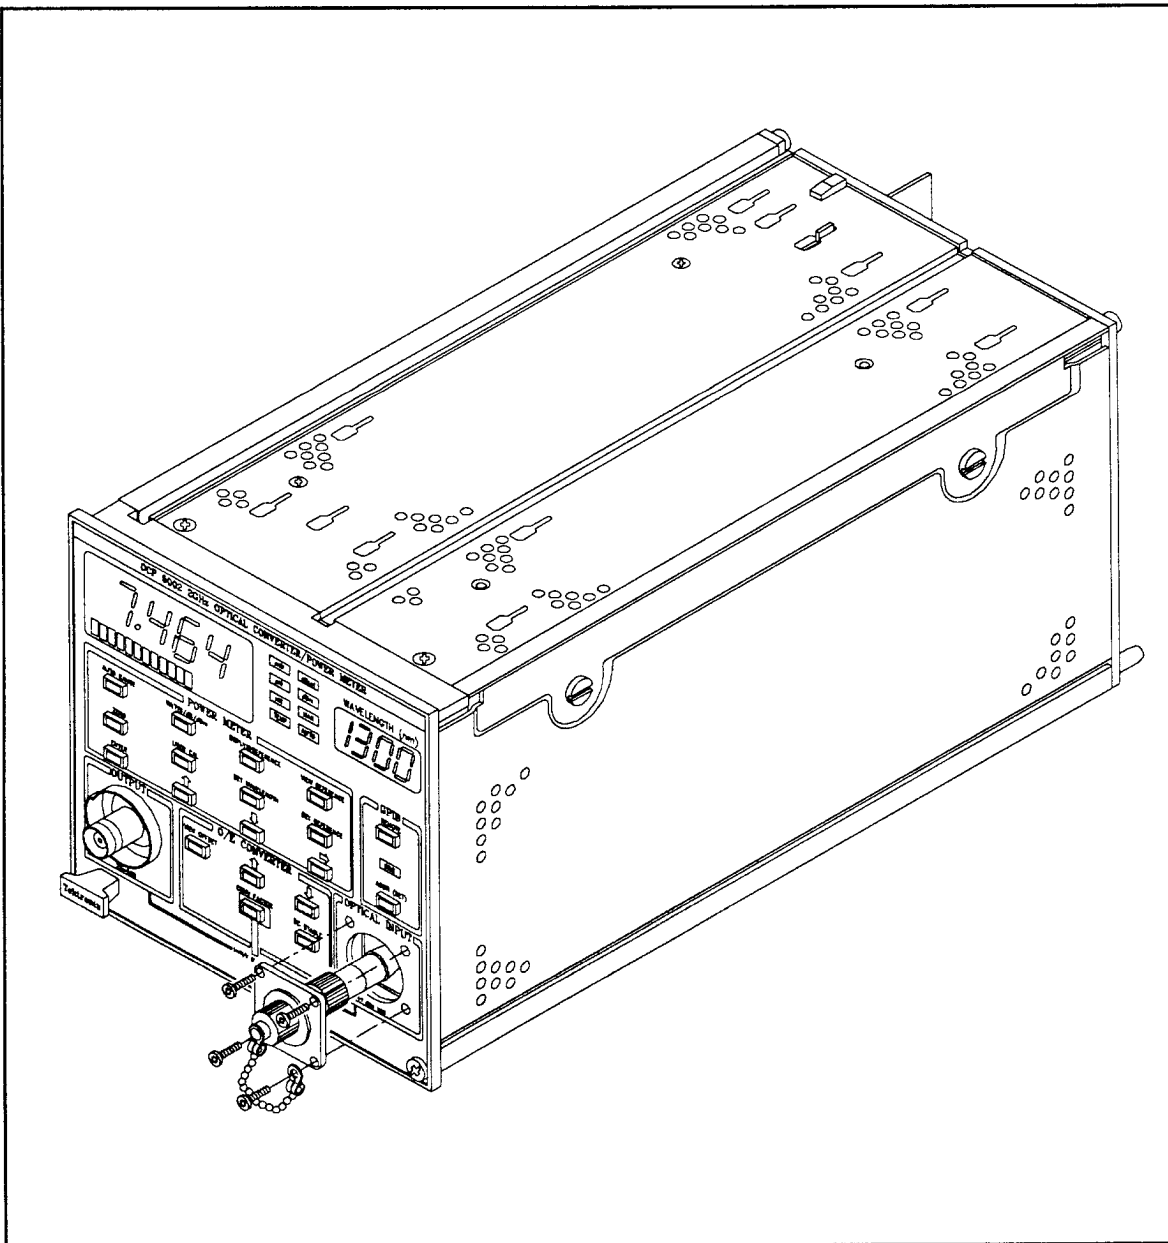

Figure 5-1. Removing the Optical Bulkhead Connector.
2. Use a Phillips screwdriver to remove the four screws that secure the bulkhead connector to the front panel (see Figure 5-1).